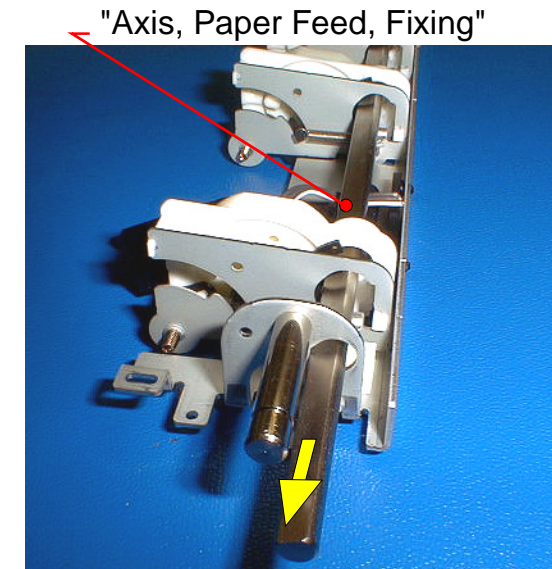

Figure 4-131. "Axis, Paper Feed, Fixing" Removal
7. From "ASF Unit", pull out "Axis, Paper Feed, Fixing" toward the side that upper surface sensor is installed. (See figure4-131)